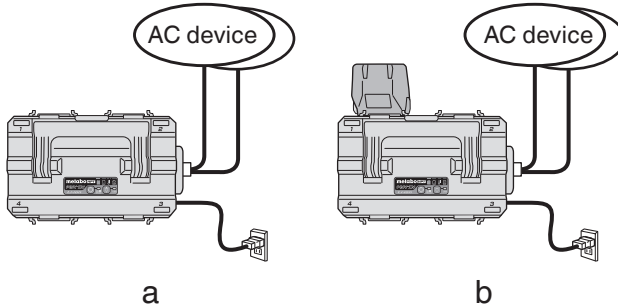

Fig. 9
(1) Select usage configuration
- Using an AC device with power supplied from an electrical outlet. (Fig. 9-a)
- Using an AC device and charging a battery with power supplied from an electrical outlet. (Fig. 9-b)